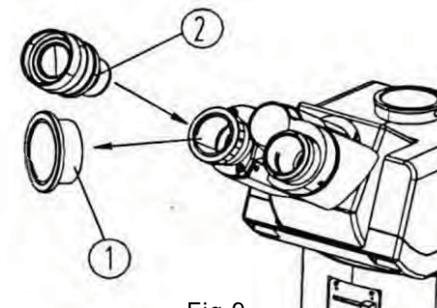

Fig.9
(1) Remove the eyepiece dust tube cover ①. (See Fig.9)
(2) Insert the eyepiece ② into the eyepiece tube until the end. There are stop pins on the eyepiece. Make sure that the stop screw holes on the eyepiece barrel are aligned.